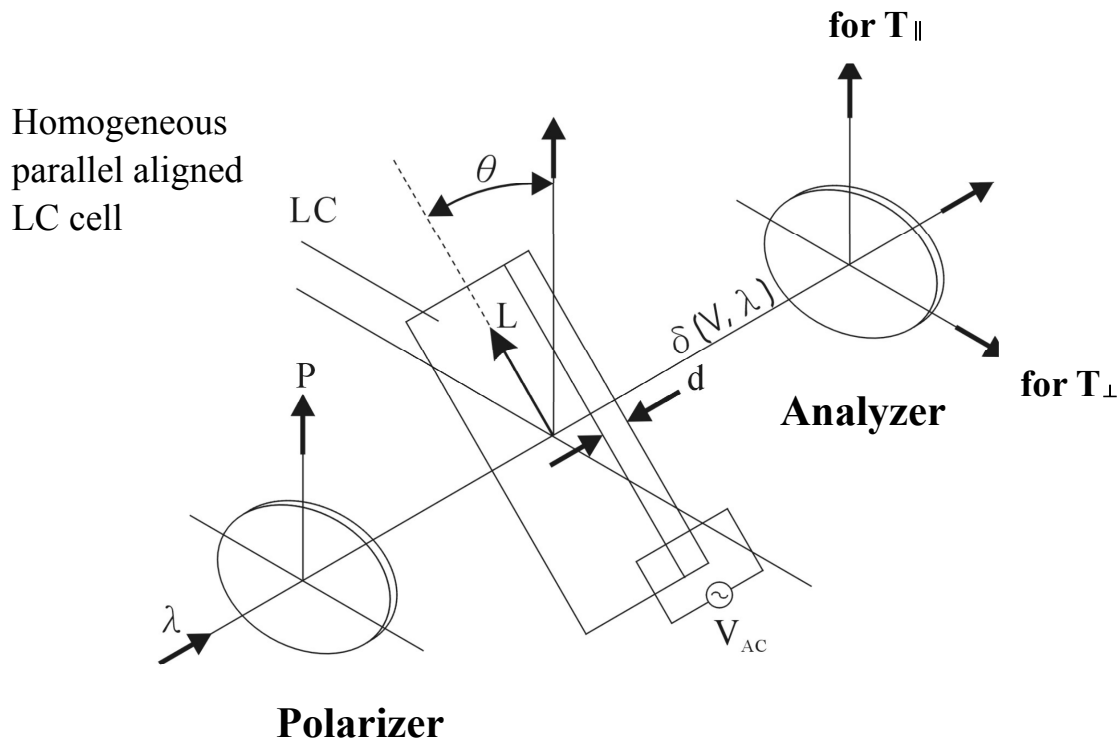

Fig. 8 Schematic diagram of experimental setup.
On the other hand, if a linearly polarized light is normally incident onto a parallel aligned cell but with its polarization making  $\theta = 45^\circ$  relative to the direction of the aligned LC directors (refer to Fig. 8 in part C), then phase retardation occurs due to the different propagating speed of the extraordinary and ordinary rays in the LC medium. In this  $\theta = 45^\circ$  configuration, when the two polarizers are parallel, the normalized transmission of a parallel aligned LC cell is given by
2. Set up  $\theta = 45^\circ$  configuration at  $V=0$  as shown in Fig. 8. Let the analyzer's transmission axis perpendicular to that of the polarizer, then rotate the parallel-aligned LC cell until the intensity of the transmitted light reaches the maximum value ( $T_{\perp}$ ). This procedure establishes the  $\theta = 45^\circ$  configuration. Take down  $T_{\perp}$  value, then, measure the intensity of the transmitted light ( $T_{\parallel}$ ) of the same LC cell at the analyzer's transmission axis parallel to that of the polarizer (also at  $V = 0$ ).